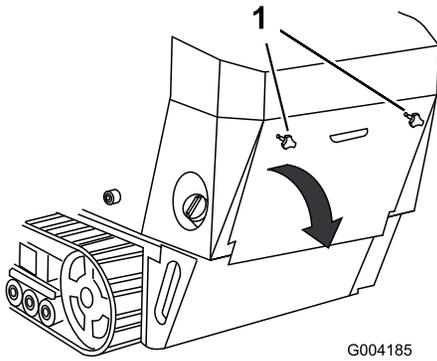

Figure 19
1. Unscrew the 2 hand knobs securing the rear access cover to the machine (Figure 19).
2. Tilt the rear access cover down and remove to access the internal components (Figure 19).